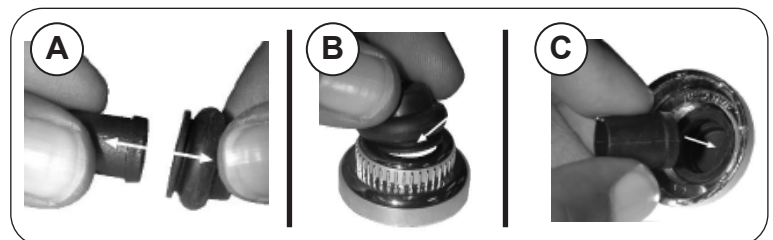

Fig. 32-5 Rubber cap replacement
1. Pull the rubber cap and the inner plastic sleeve apart (see Fig. 32-5, A).
2. Carefully insert the rubber cap into the igniter cover so it sits behind inner lip (see Fig. 32-5, B).
3. Turn the cap over and slide the inner plastic sleeve into the cap (see Fig. 32-5, C).